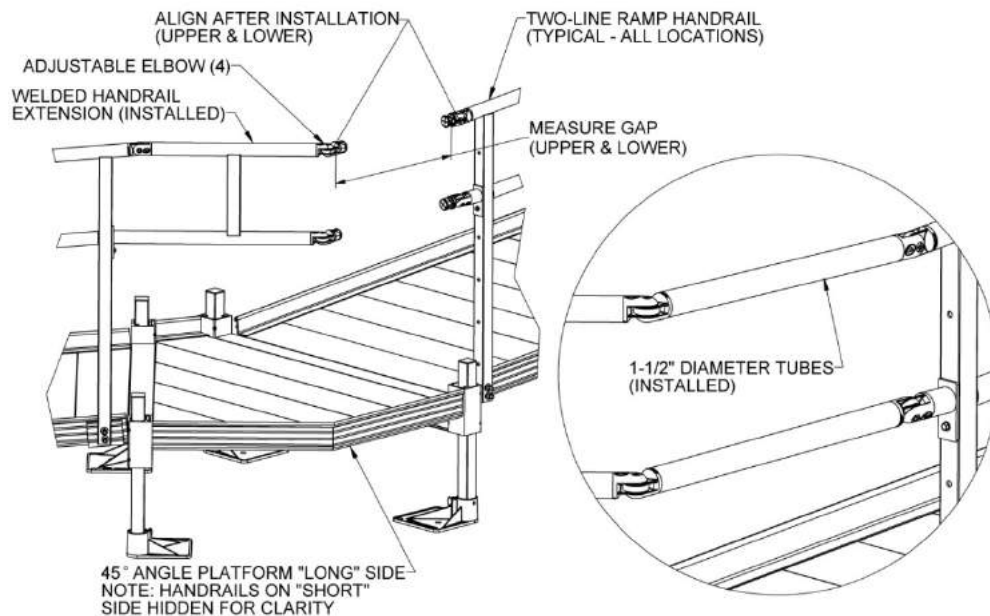

FIG. 4.20
- 4.8.12. Insert adjustable elbows into the open ramp handrail, the Bolt-On Stub Rail and the open ends of the welded handrail extension (FIG. 4.20).
- 4.8.14. FIG. 4.20 shows the completed connection.